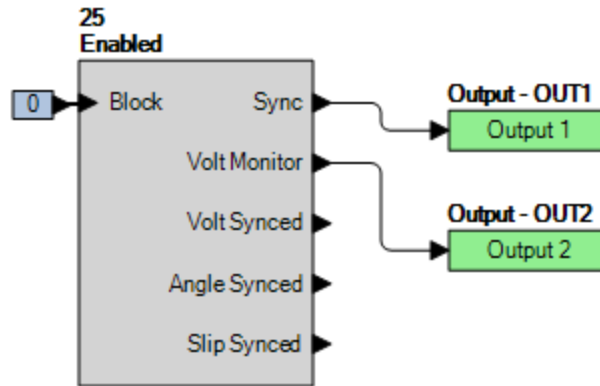

Figure 59-1. BESTlogicPlus Settings (25)
Step 2: Use BESTCOMSPPlus to configure the BESTlogicPlus Programmable Logic shown in Figure 59-1.